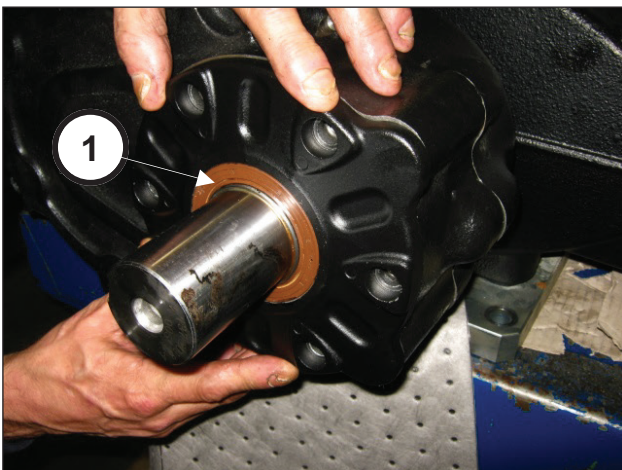

Fig. 81
To prevent damage to the seal ring, take special care when inserting the seal ring on the pinion (pos. ①, Fig. 81).